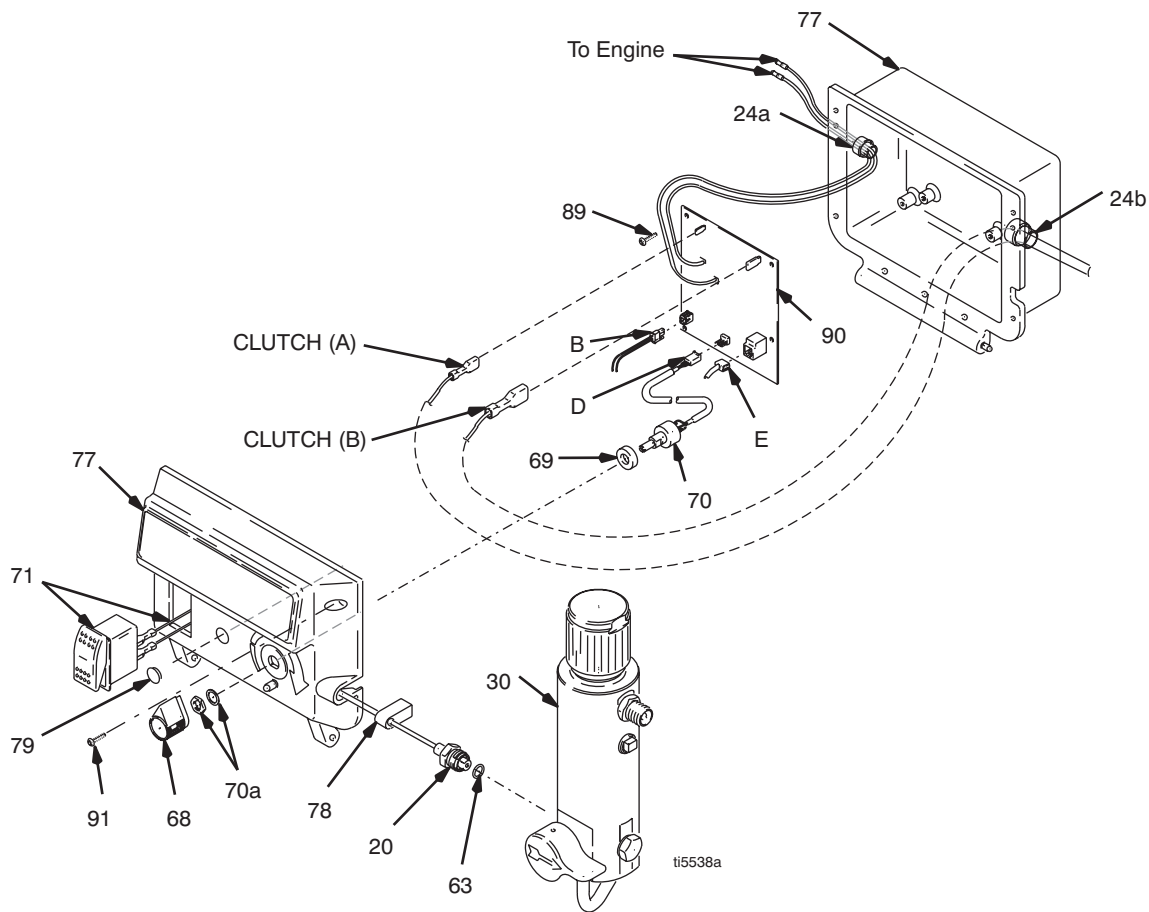

FIG. 13
2. FIG. 13. Remove two screws (91) and swing down cover (77).
3. Disconnect ON/OFF switch connector (B) from PC board.
4. Press in on two retaining tabs on each side of ON/OFF switch (71) and remove switch from cover.
2. FIG. 13. Remove two screws (91) and swing down cover (77)
5. Disconnect at control board (90):
- Lead (D) from potentiometer
- Lead (E) from transducer
- Lead (B) from ON/OFF switch
6. Remove four screws (89) and control board (90).
1. FIG. 13. Install control board (90) with four screws (89).
2. Connect at control board (90):
5. Swing up cover (77) and secure with two screws (91).
3. Disconnect lead (E) from control board (90).
4. Pull transducer connector through rubber grommet (78).
5. Remove pressure control transducer (20) and o-ring (63) from filter housing (30).
1. FIG. 13. Install o-ring (63) and pressure control transducer (20) in filter housing (30). Torque to 35 - 45 ft-lb.
3. Connect lead (E) to control board (90).
4. Swing up cover (77) and secure with two screws (91).
2. Fig. 13. Remove two screws (91) and swing down cover (77).
3. Disconnect lead (D) from control board (90).
4. Loosen set screws on potentiometer knob (68) and remove knob, shaft nut, lock washer and potentiometer (70).
5. Remove seal (69) from potentiometer.
1. Install seal (69) on potentiometer (70).
2. FIG. 13. Install potentiometer, shaft nut, lock washer and potentiometer knob (68).
- a. Turn potentiometer shaft clockwise to internal stop. Assemble potentiometer knob (68) to strike pin on cover (77).
3. Connect lead (D) to control board (90).